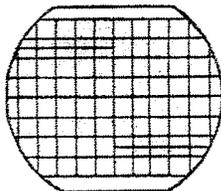

Fig. 16 Calibration signal display
3. The displayed square wave when properly centered should be 5 divisions high and 10 divisions long (5 divisions positive, 5 divisions negative) (see Fig. 16).